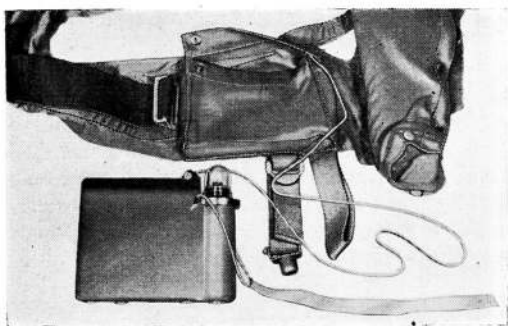

Fig. 8. Life-jacket lamp
19. The life-jacket lamp (*fig. 8 and 9*) consists of a battery, a skull cap on which the bulb is mounted, and a cable, all stowed inside a watertight plastic case. The battery consists of plates of silver chloride and magnesium which operate when in contact with fresh or salt water.